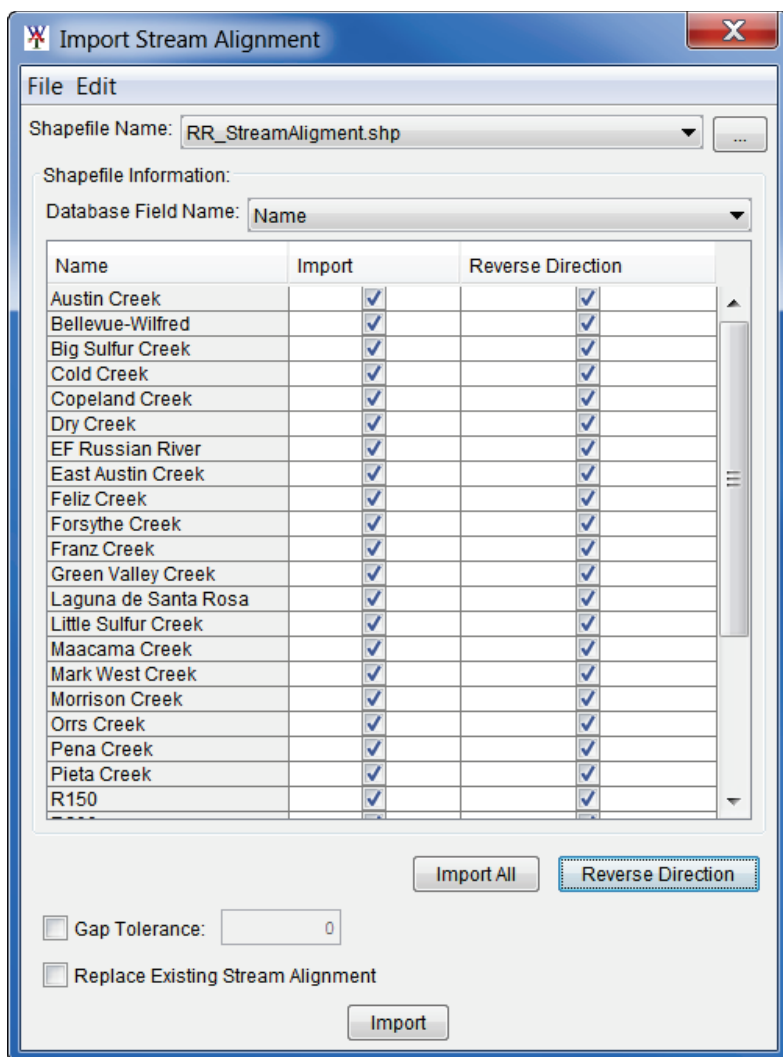

Figure 5.13 Import Stream Alignment Dialog Box
**Import** – allows the user to import a stream alignment from a shapefile that has already been added to the project. From the **Import Stream Alignment** dialog box (Figure 5.13), the user will select a shapefile (polyline) and then import that shapefile, creating a stream alignment.